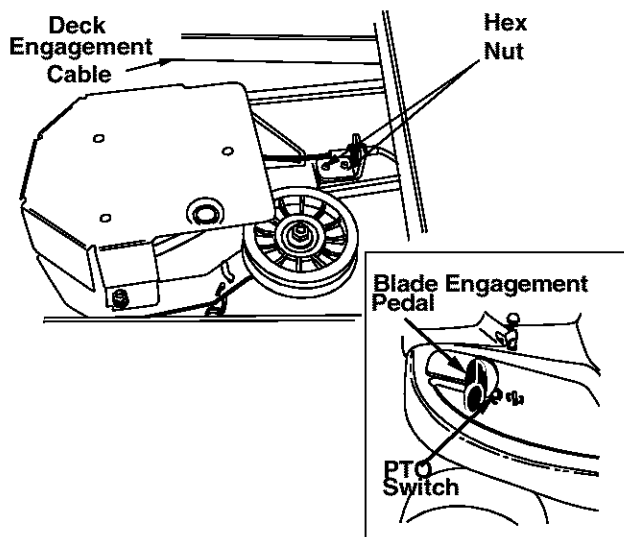

Figure 11
The blade engagement pedal should be adjusted so that if you depress it about 3/4" from the front of the slot, it should start engaging the deck belt. The PTO (power take off) switch is located in the blade brake slot on the left side of the upper frame. See Figure 11. The brake engagement pedal needs to make contact with the PTO switch for the engine to start.
Adjustment to the blade brake will have to be made at the cable end. See Figure 11.
1. If the belt is slipping when you depress the blade engagement pedal about 3/4", loosen the two hex nuts on the cable. See Figure 11.
2. If the belt is engaging sooner than when the blade engagement pedal is 3/4" from the PTO switch, tighten both hex nuts on the cable. See Figure 11.